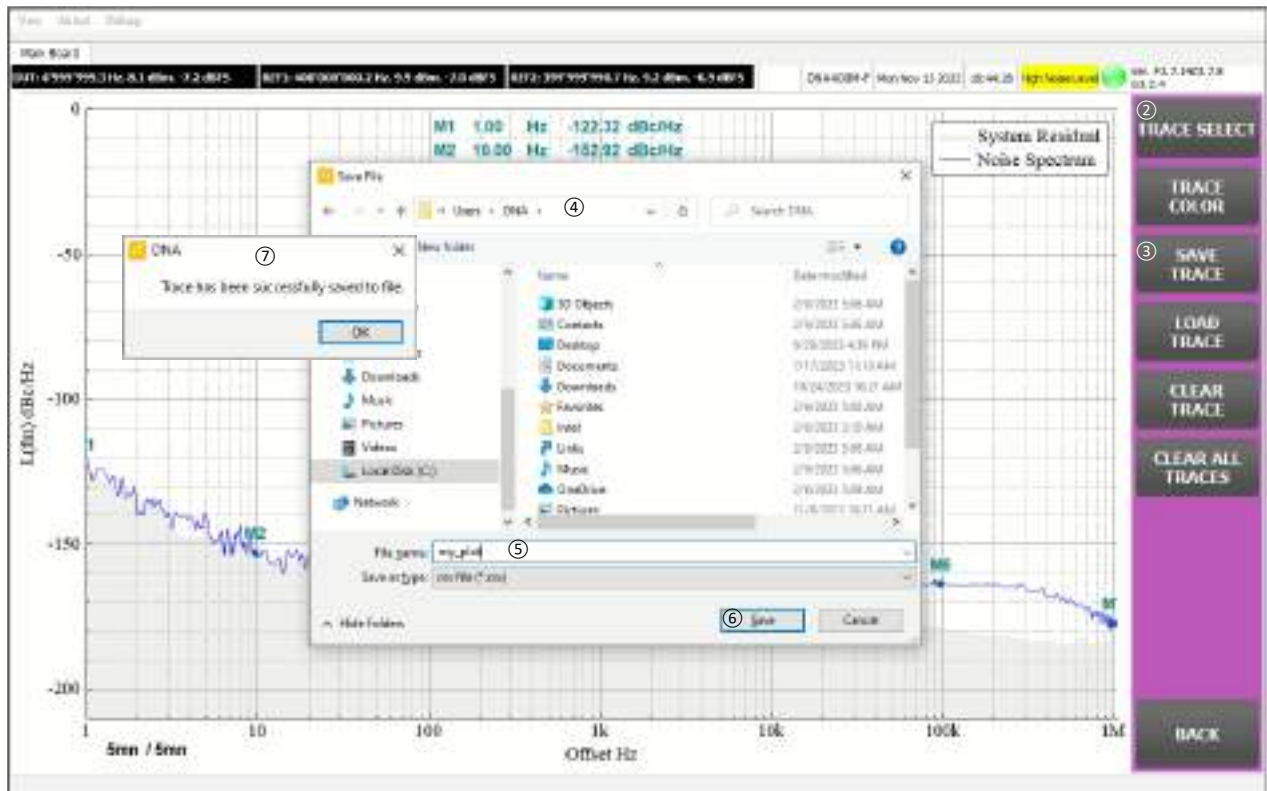

Figure 24 - Save Graph to data file
Click on the OK ⑦ button to close the popup message. The graph data saving process is illustrated in the Figure 24 - Save Graph to data file